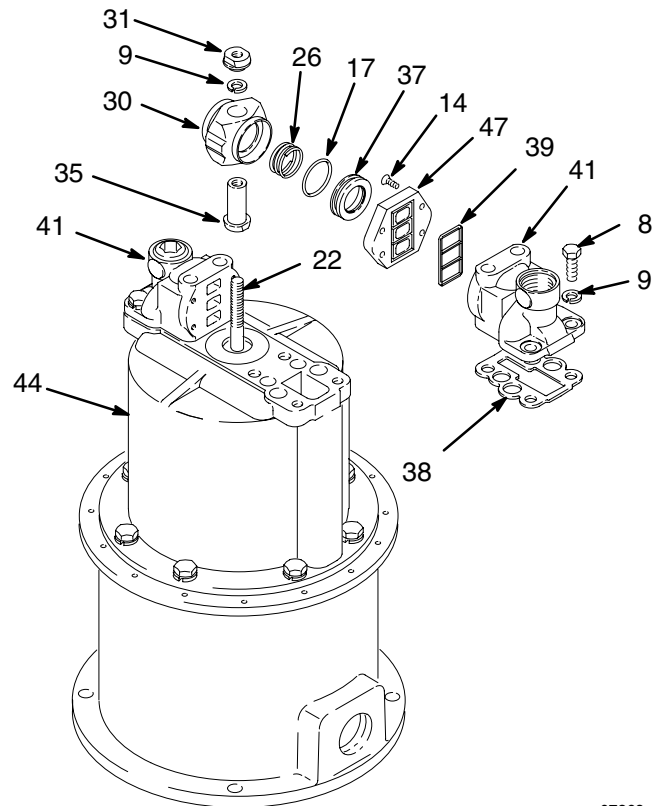

Fig. 4
**NOTE:** Refer to Fig. 4 for steps 6 to 9.
6. To prevent the spring-loaded director valves (37) from popping out of the air valve housing (30), hold them in with your fingers. Lift the air valve housing and rotate it 90°, so it rests on the manifolds (41). Remove your fingers slowly, allowing the valve springs to release gently. Remove and inspect the director valves (37), o-rings (17), and springs (26).